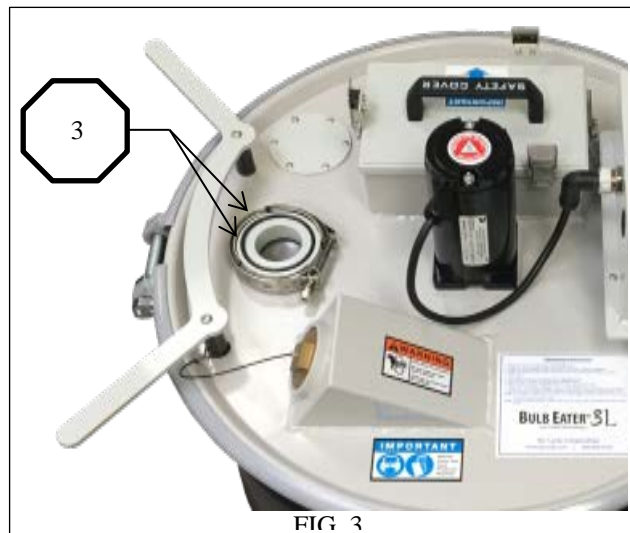

FIG. 3
3. Apply silicone grease on the O-ring and place an O-ring and a clamp on the mounting flange attached to the lid assembly. **Figure 3**